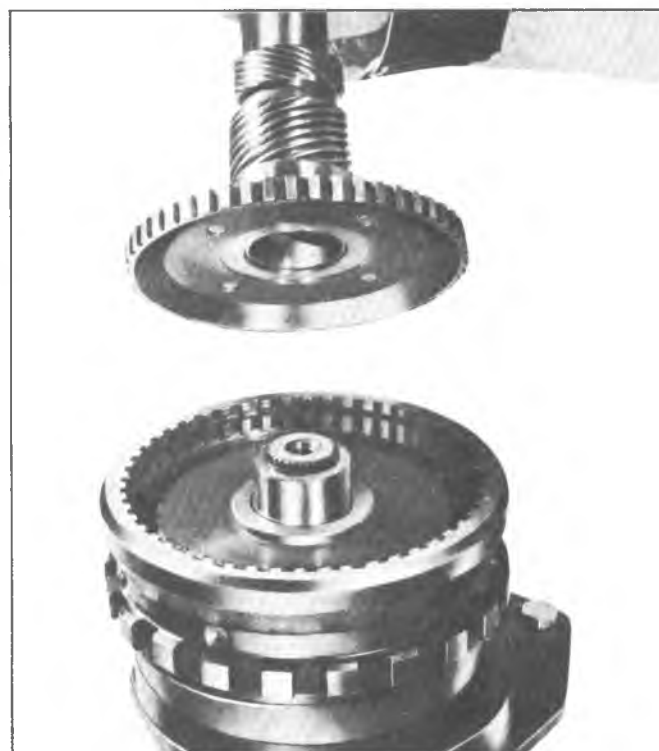

Fig. 119T--Installing Output Shaft
7. Install output shaft into output carrier assembly (fig. 119T).